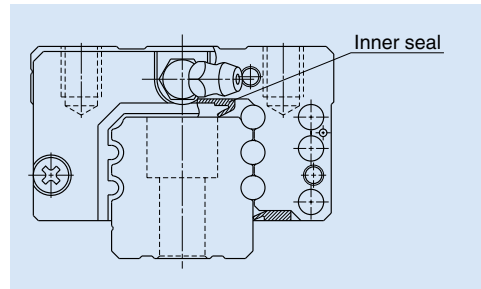

Fig. 7.6 Inner seal when installed
(4) Inner seal
- The end seal installed on both ends of a slide cannot arrest entire contaminant, though the missed amount is negligible. An inner seal protects the rolling contact surface from such contaminant which entered inside the slide (**Fig. 7.6**).